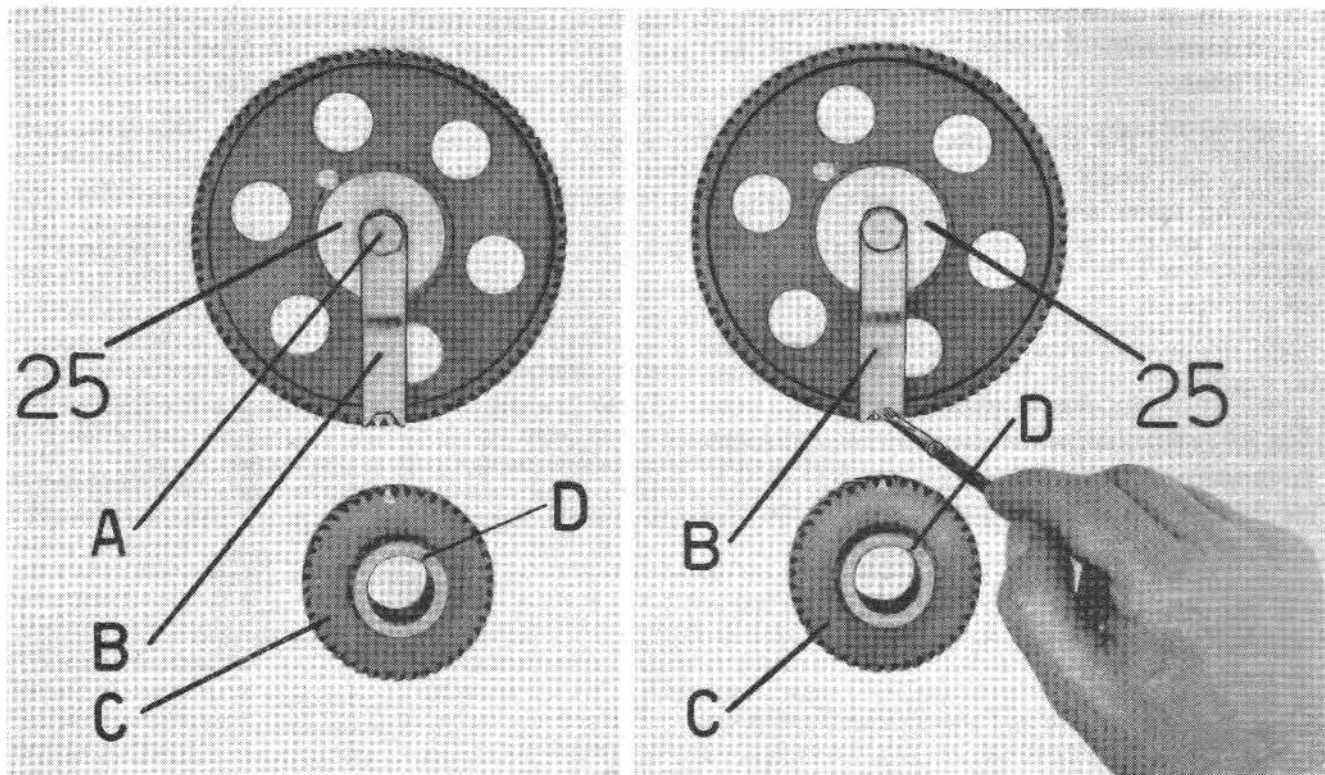

Fig. 58
- insert dowel of tool No. 12913800 (see 25 on Fig. 58) in marked cam wheel slot (the same in which camshaft dowel was previously located).
- undo bolt (A) of above tool and rotate tool arm (B) until notch at end of same comprises perfectly the two marked teeth. Then screw down bolt (A).
- remove tool from wheel to be replaced and apply it to new wheel. Insert tool dowel in each of the five slots until notch at arm's end (B) will comprise perfectly **two teeth** of the new wheel. Now mark with paint the two teeth comprised in arm notch and the slot in which the tool dowel is inserted.